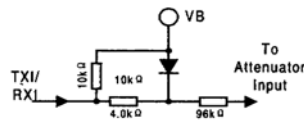

Fig.2 Attenuator Input stage
1. The circuit will switch to transmit if: (A) both transmit level detectors sense signals relative to the respective receive level detectors( TLI1 versus RLI1, TLI2 versus RLI2) and (B) the transmit background noise monitor indicates the presence of speech.
2. The circuit will switch to receive if: (A) both receive level detectors sense higher signal levels relative to the respective transmit level detectors and (B) the receive background noise monitor indicates the presence of speech.
3. The circuit will switch to the fast Idle mode if the level detectors disagree on the relative strengths of the signal levels, and at least one of the background noise monitor indicates speech. For example, referring to the Figure 2, if there is sufficient signal at the microphone amp. Output(TLI2) to over-ride the speaker signal(RLI2), and there is sufficient signal at the receive input(RLI1) to over-ride the signal at the hybrid output(TLI1), and either or both background noise monitors indicates speech, then the circuit will be in the fast idle mode. Two conditions which can cause the fast idle mode to occur are : (A) when both talkers are attempting to gain control of the system by talking at the same time. And (B) when one talker is in a very noisy environment, forcing the other to continually over-ride that noise level. In general, the fast idle mode will occur infrequently.